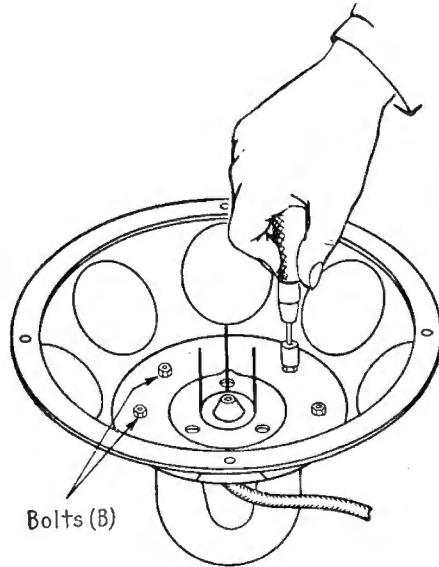

FIG. 9-12.—Centering the center pole piece with drill rod.
6. The next step centers the center pole piece, so that the field space in which the voice coil floats is uniform. Place three or four pieces of drill rod of the proper size to fit exactly in the field space, as shown in Fig. 9-12.